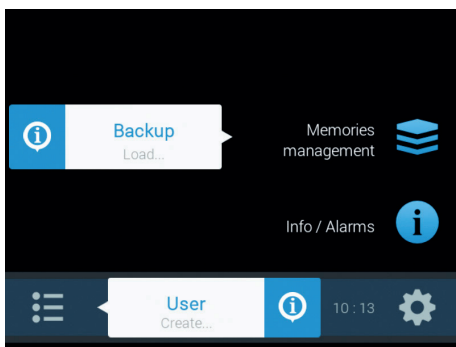
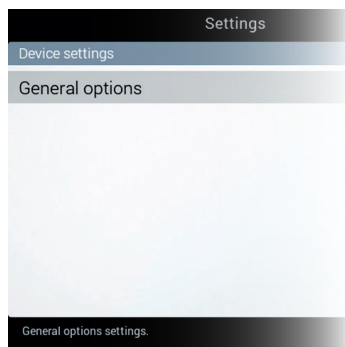

Fig. 4
Fig. 5
Upon first switching on, after the software version, the monitor displays the "Home" screen (Fig. 4): Set the monitor language.
- In the "Home" screen (Fig. 4) press **FB** to enter the **Settings** menu (Fig. 5).